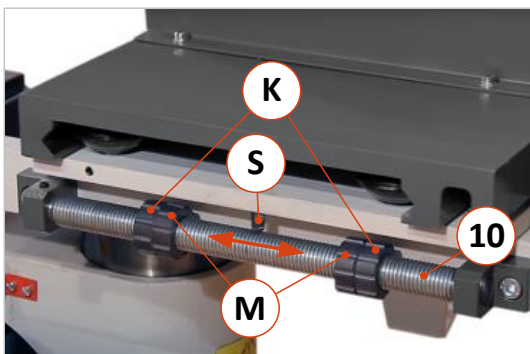
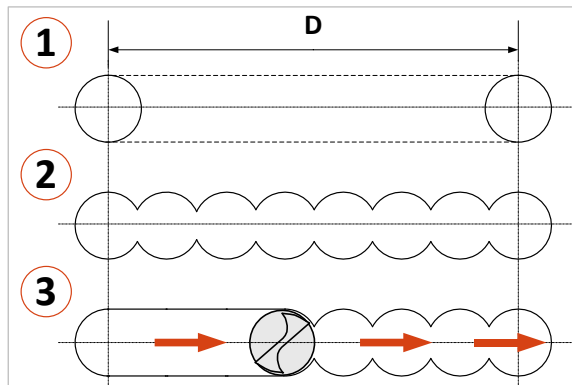

Figure 20: Drilling depth stops
Figure 21: Mortising sequence
The drilling of a mortise is carried out according to the sequence shown in ⇒ Figure 21:
2. Then drill several intermediate holes over the entire mortise width to the depth set on the drill depth stop (see ⇒ Figure 20). Choose the hole spacing so that the holes do not run into each other, see ⇒ Figure 21 (2).
**Please note: For deep mortises, gradually increase the depth when connecting the intermediate holes together (see ⇒ Figure 21). Drilling too deep in one step can destroy the tool and/or overload the motor.**